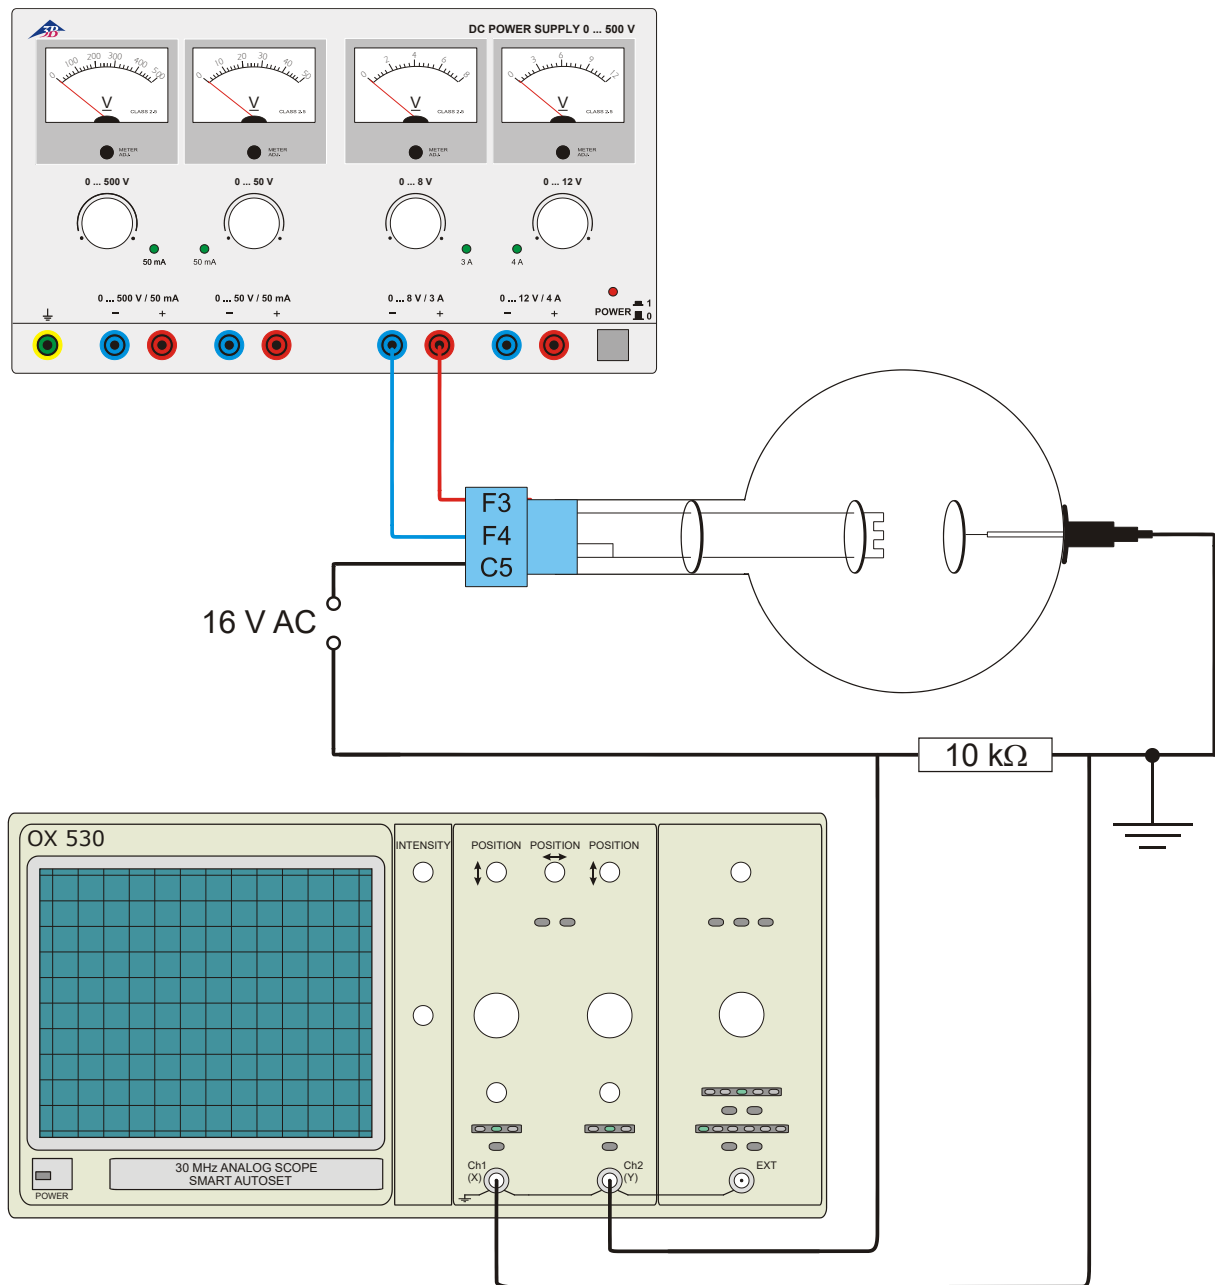

Fig. 3 Diode rectifier
- Set up the circuit as in Fig. 3 with $U_F = 6.3 \text{ V}$ and $U_A = 16 \text{ V AC}$.